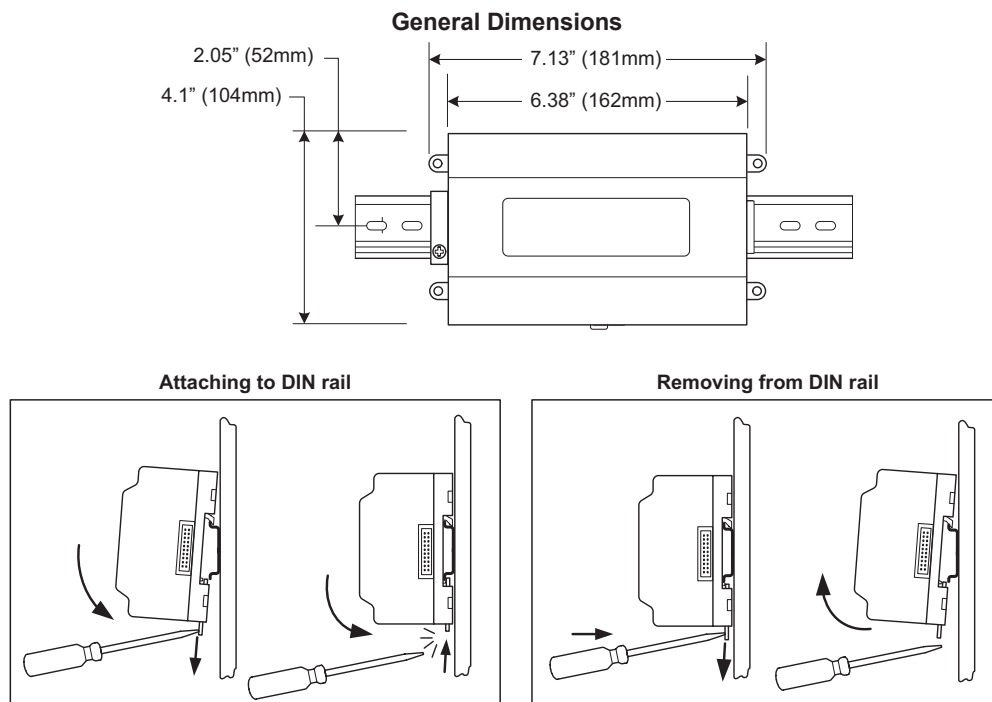

Fig. 1: DIN Rail Mounting
2. Position the Segment Manager on the rail, tilting to hook DIN rail tabs over one edge of the DIN rail (see Fig. 1).
**NOTE:** DIN rail mounting is recommended over tab mounting (see Fig. 1).